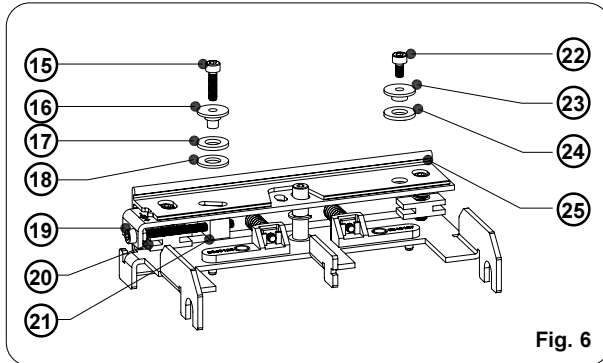

Fig. 6
17. When mounting screw (19), nut (20) with washer and slide (21) (see figure 6), tighten the nut as close as possible to the printhead mounting bracket without hindering the turning of the screw (20). This is necessary to minimize the clearance of the ribbon shield adjustment.
18. When mounting the ribbon shield (25) (see figure 6), make sure that the collar of bearing 2 (16) will be inserted in the elongated holes of ribbon shield and printhead mounting bracket, and the collar of bearing 1 (23) will be inserted in the hole of the ribbon shield. If all parts are mounted correctly, the ribbon shield can be shifted by turning the screw (19).